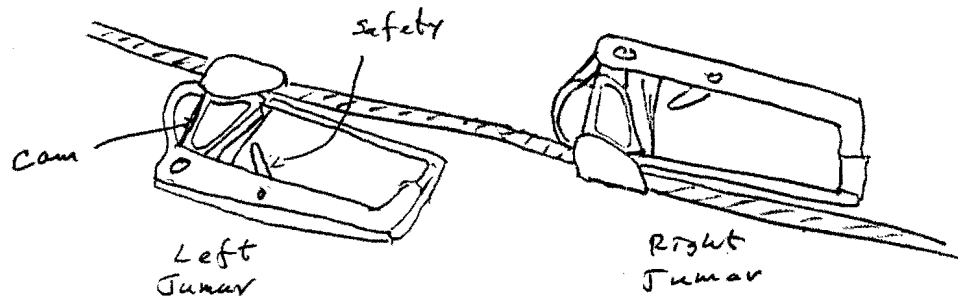

Figure 2.11. Tumar ascendeurs.
a) Tumar. The original mechanical rope climbing device is the Tumar, illustrated in figure 2.11. It consists of a cast aluminum frame and a savinging cam which clamps the rope when the Tumar is pulled and allows the rope to slide when it is pushed. Although the Tumar is